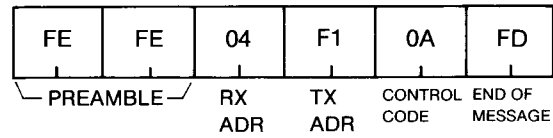

Fig. 41
(2) If the controller sends out a packet such as in Fig. 41, the information of the displayed MEMORY CHANNEL is transferred to a VFO.